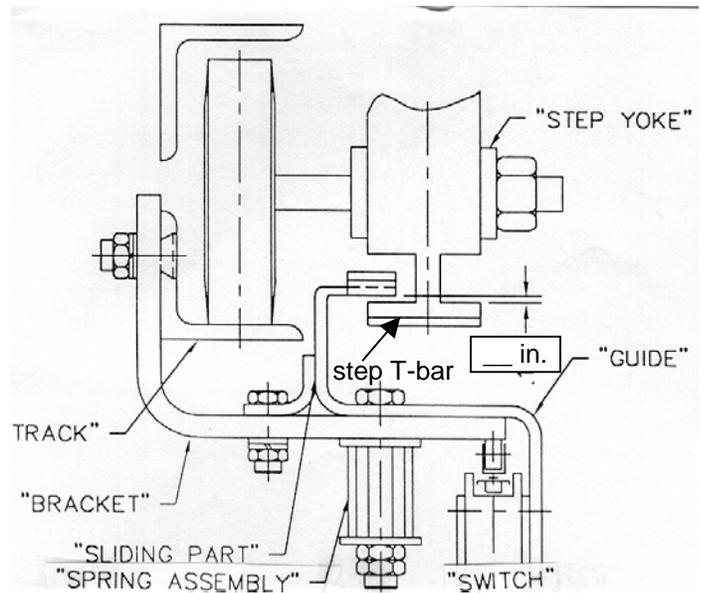

Figure 8-10k Fujitec LH Upthrust Safety Device
97. What is the gap between the step T-bar and the guide in figure 8-10k?
98. What maintenance is required for the sliding part of figure 8-10k?